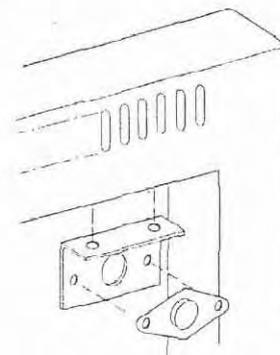

Figure 29
**Note:** To test and/or replace the limit switch, the switch assembly must be detached from the appliance. The switch assembly is located in the control opening side of the GST, GPF and GCR Models. Remove the two (2) Phillips head screws from under the trim bar. The switch plate assembly can be lowered to test or replace the switch (Figure 29). Refer to pages 14 and 15 to identify switch.